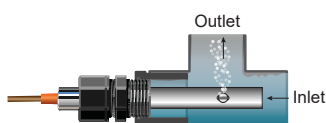

Fig. 1
- GF Signet advises all conductivity sensors be installed in a piping system as shown in Fig 1.